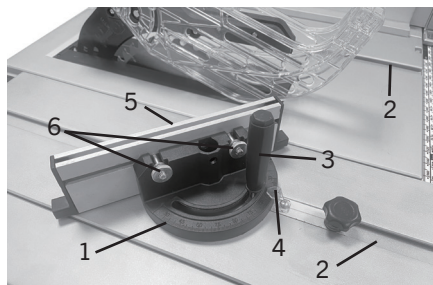

FIG. 15
1. Slide the miter gauge bar into one of the T-slots (2) in the table.
2. To adjust the miter gauge, loosen lock handle (3) and set the miter gauge (1) so the indicator (4) aligns to the desired cutting angle, then re-tighten lock handle (3) (Fig.15).
3. This miter gauge comes with an aluminum facing (5) which can be removed if desired by removing lock knob (6). (Fig.15).